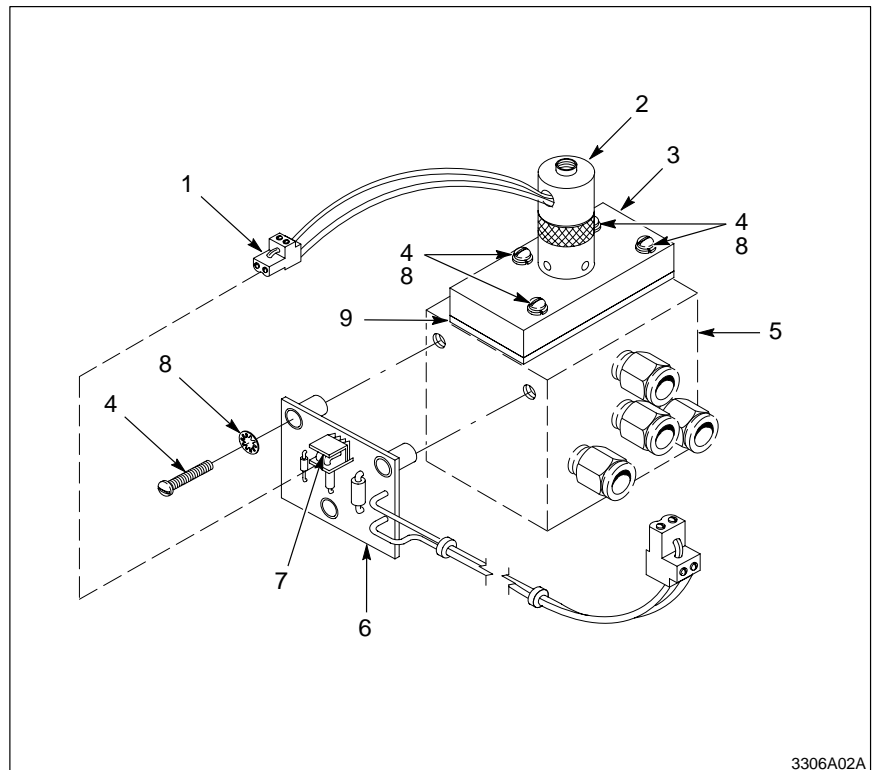

Fig. 2 Installing New Solenoid and Circuit Board
2. See Figure 2. Screw the solenoid valve (2) into the pilot manifold (3).
3. Position the new gasket (9) and pilot manifold on top of the air manifold (5) and secure the pilot manifold to the air manifold with four of the screws (4) and lockwashers (8) provided in the kit.
1. See Figure 2. Mount the circuit board (6) to the side of the air manifold using the screws and lockwashers provided.
2. Plug the solenoid valve connector (1) into the mating connector P1 (7) on the circuit board.
NOTE A: See Figure 2.